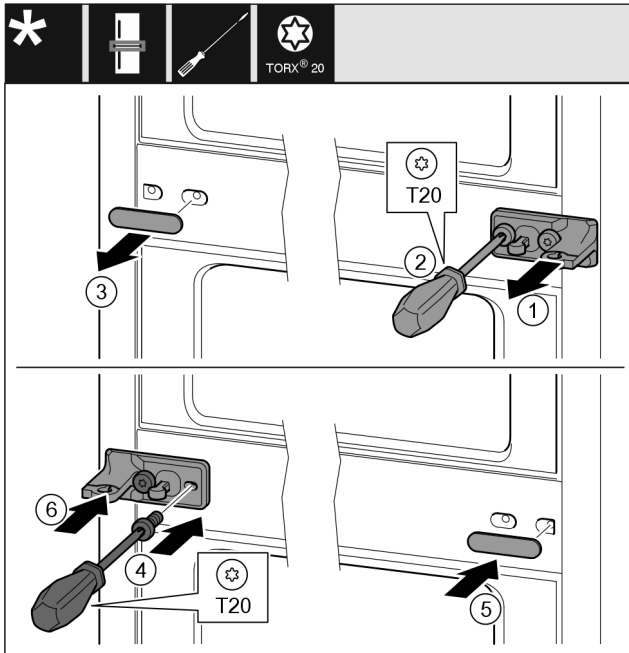

Fig. 14
- ▶ Remove the washer Fig. 14 (1).
- ▶ Unscrew screws Fig. 14 (2) with screwdriver.
- ▶ Remove the cover Fig. 14 (3) carefully.
- ▶ Turn the bearing block with film Fig. 14 (4) by 180° and screw it tight on the other side.
- ▶ Turn the cover Fig. 14 (5) by 180° and attach to the other side.
- ▶ Slide on the washer Fig. 14 (6) from the front.